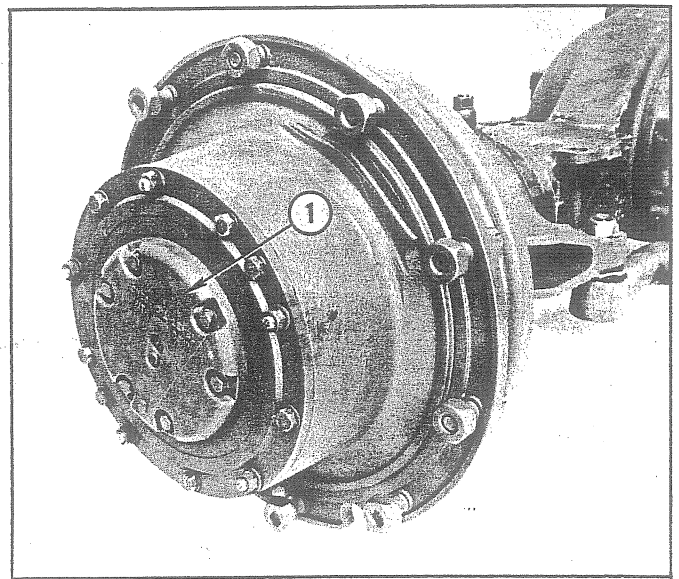

Fig. 36 - Sun Gear Thrust Cap in Place
31. Place thrust plate into position and then secure with retainer bolts. See Fig. 36. Tighten retaining bolts to 35-40 ft.-lbs torque.